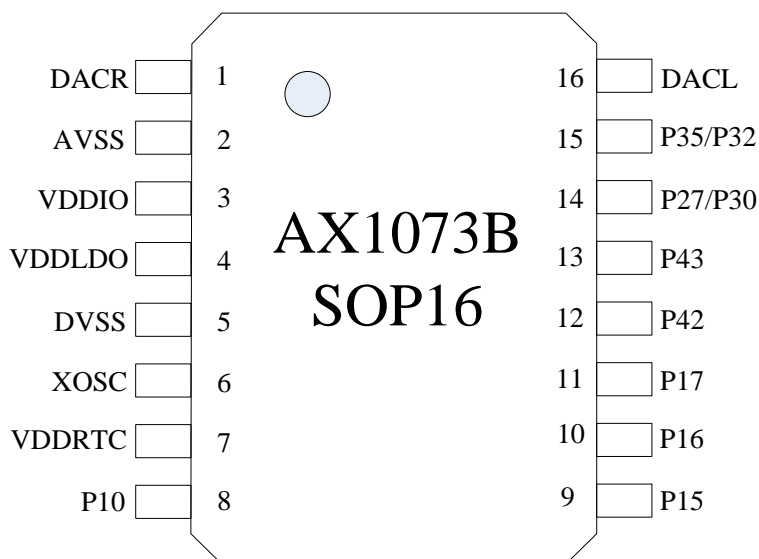

Figure 2-4 Pin assignment for AX1073B SOP16
*Figure 2-4* shows AX1073B SOP16 Package.